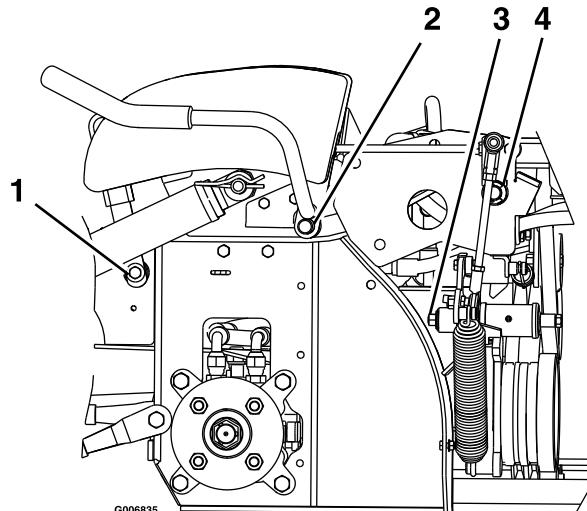

Figure 29
2. Lubricate the bronze bushings on the brake handle pivot with a spray type lubricant or light oil (Figure 29).